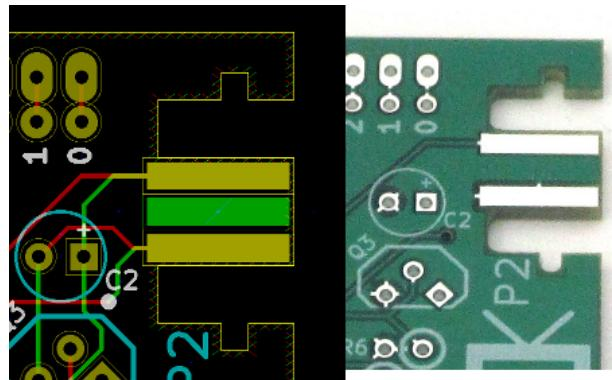

Figure 27: An example of PCB outline. Source: Link.
13. In the last step we will generate the outline of the PCB. This is the physical boundary of the PCB. Fig. 27 illustrates an example PCB with a non-rectangular outline.